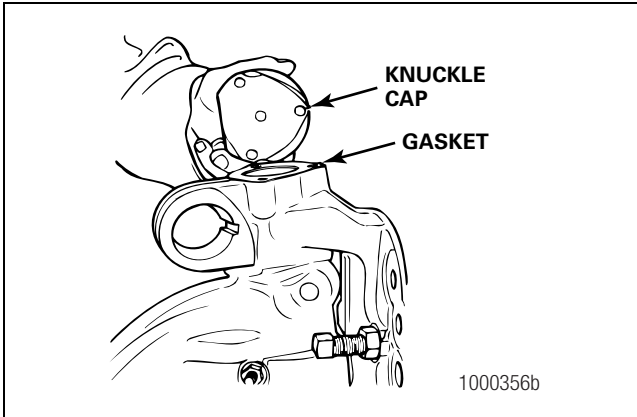

Figure 4.15
5. Remove the capscrews that fasten the king pin caps to the top and the bottom of the knuckle. Remove the caps and the gaskets. Figure 4.15.